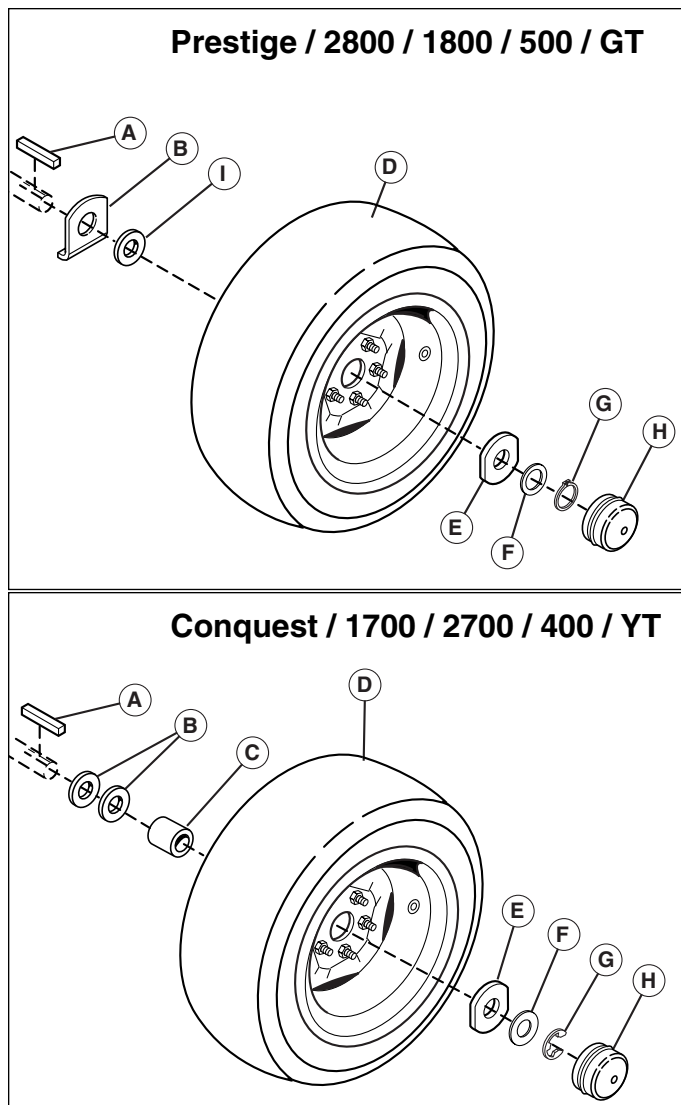

Figure 26. Rear Axle Hardware
5. Reinstall the components in reverse order of disassembly and lower the unit. Be sure the key (A, Figure 26) is in place in the axle keyway.